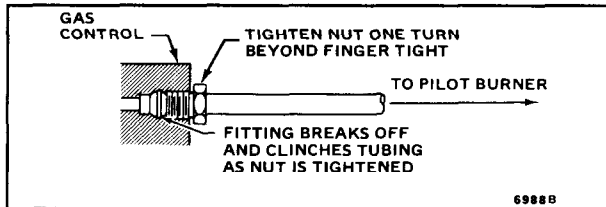

FIG. 7—ALWAYS USE NEW COMPRESSION FITTING.
4. Push tubing into the pilot gas tapping on the outlet end of the control until it bottoms. While holding tubing all the way in, slide compression fitting into place and engage threads—turn until finger tight. Then tighten one more turn with wrench. Do not overtighten. Refer to Fig. 7.